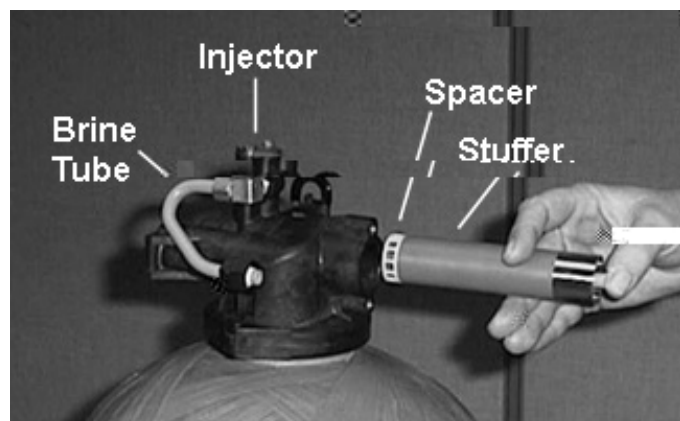

FIGURE 9
8. Remove the cap screw (N) and the cap screw (N) from the back plate. (See Figure 9.)
9. All components are now removed. (See Figure 9.)
10. All components are now removed. (See Figure 9.)